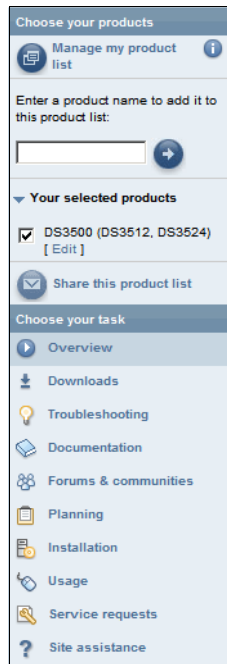
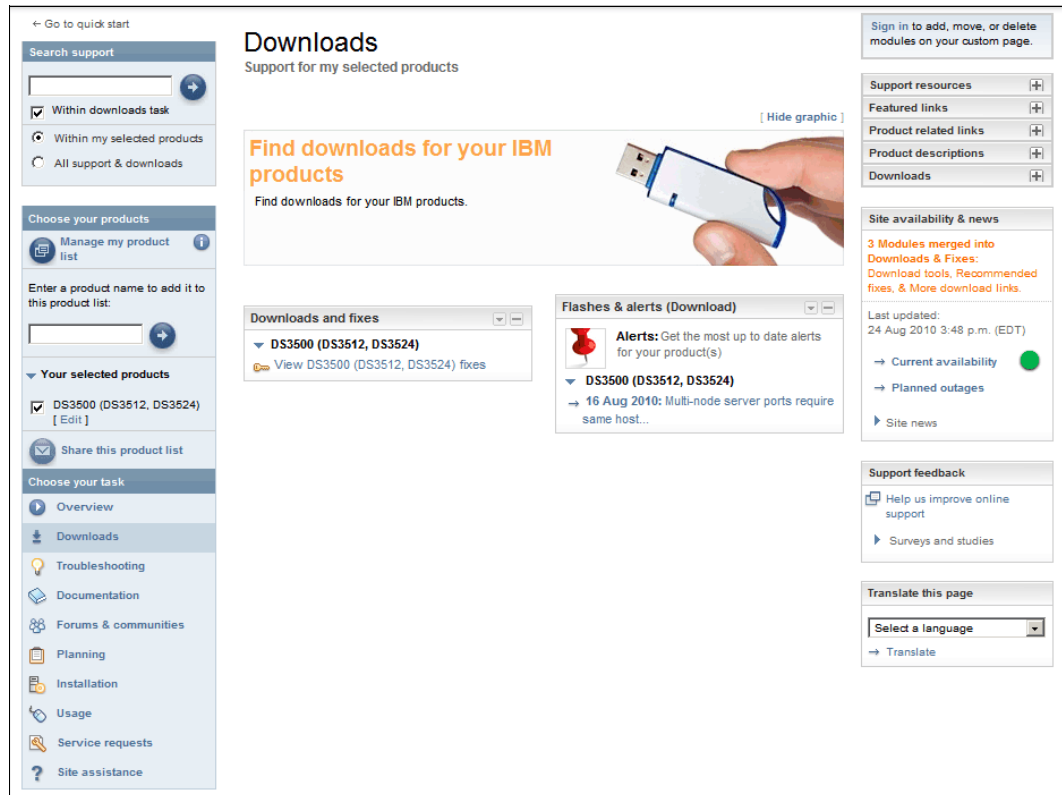

Figure A-5 Choose your task
Figure A-6 Support Portal - Downloads page
- Down the left side of this page, there is a **Choose your task** function as shown in Figure A-5. You use these links to select the support option that you want to access.
1. From the **Choose your task** list (Figure A-5 on page 722), click the **Downloads** link. A webpage similar to the one shown in Figure A-6 will be displayed.